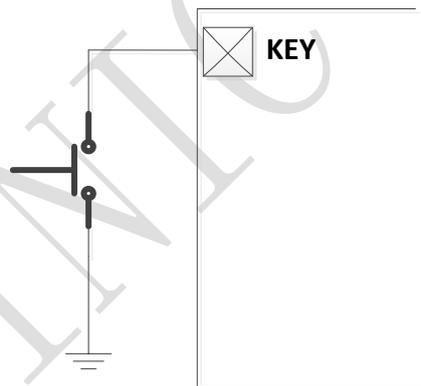

Fig 3 KEY button
- Push button's connecting is shown in Fig 3. IP5108/IP5108E can identify long push and short push.